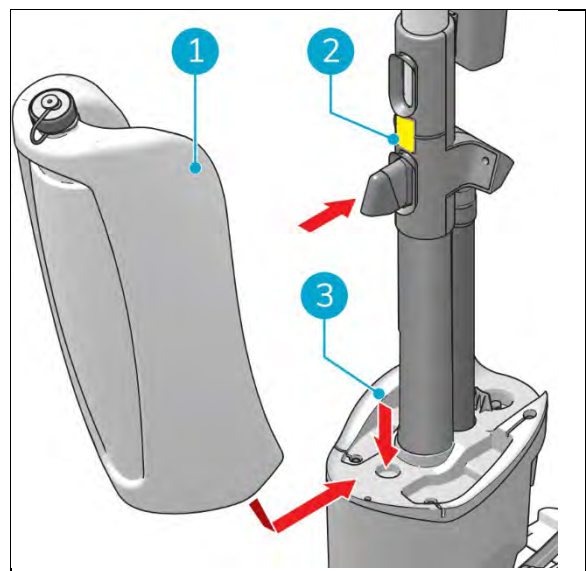

Figure 11
1. Put the bottom of the recovery tank (Figure 11, pos. 1) on the front of the i-mop[®] XL Pro (Figure 11, pos. 3).
2. Push the top of the tank into place until you hear a 'click' sound, the magnet (Figure 11, pos. 2) will lock the recovery tank into place.